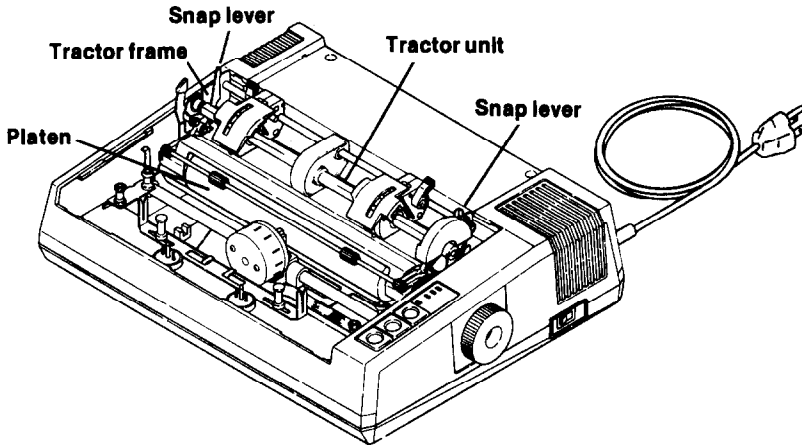

Figure 2-1. The Gemini tractor unit is easy to remove for using single sheets or roll paper.
2. Identify the two "snap levers" by comparing your printer with the Gemini-10X shown in Figure 2-1.
Figures 2-1 and 2-2 showed you how to remove the tractor unit from your Gemini. The tractor unit drives ("feeds") the sprocket paper through the printer. When you want to print onto this type of paper, you must first attach the tractor unit. Figure 2-7 shows you the correct alignment for gliding the unit into position and snapping it into place.